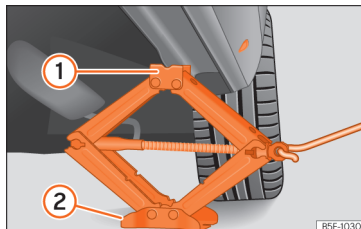

Fig. 39 Cross member: positioning the jack on the vehicle.
- Turn the jack crank handle, located below the strut support point, to raise it until the tab ① » » » **Fig. 39** is below the housing provided.
- Align the jack so that tab ① “grips” onto the housing provided on the strut and the mobile base ② is resting on the ground. The base plate ② should fall vertically with respect to the support point ①.